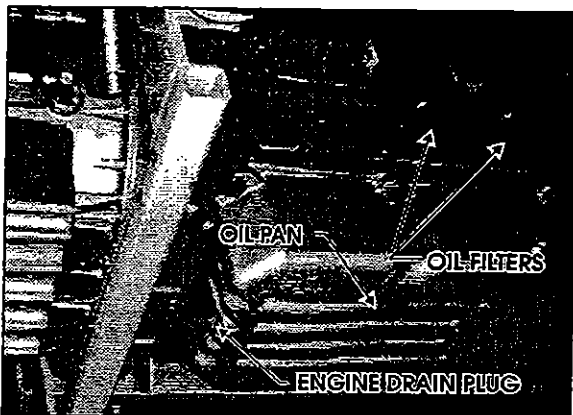

Figure 13
1. From under the vehicle, remove the engine drain plug on the oil pan. Allow oil to drain (Fig. 13).